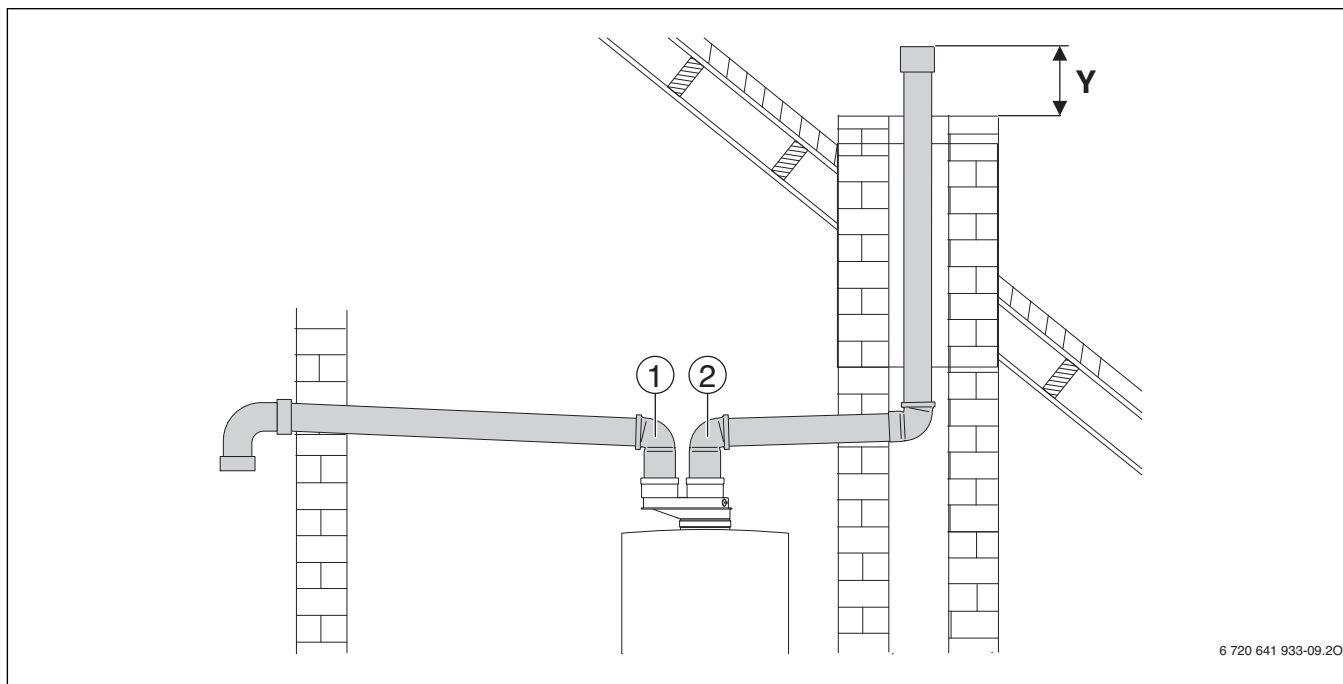
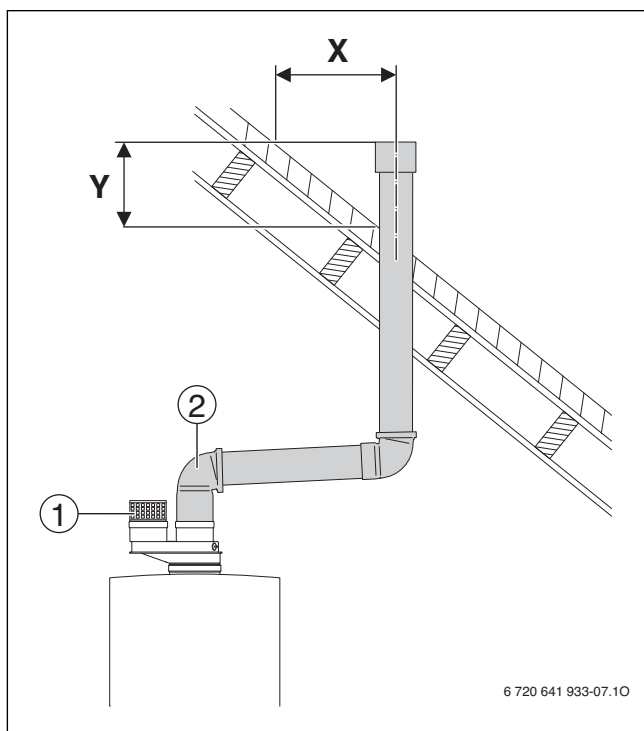
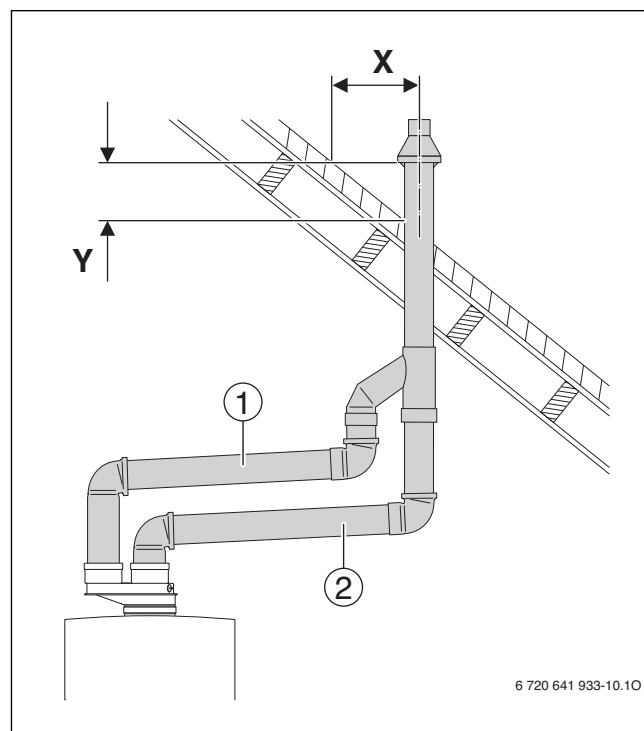

Fig. 36 Vertical venting system (sealed combustion)
Fig. 37 Vertical venting system (room air only)
Fig. 38 Vertical venting system (sealed combustion)
**Key to Fig. 36, Fig. 37 and Fig. 38:**
Installations → Fig. 38 Concentric termination